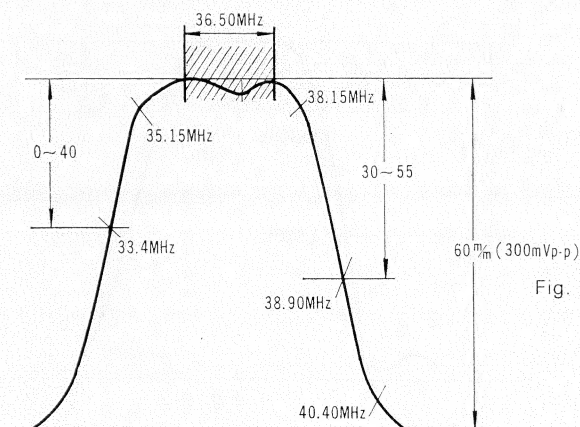

Fig. 4-4
- (1) Set AGC bias to 1.2Volts.
- (2) Set the center frequency of the sweep generator to 700 MHz.
- (3) Adjust the channel selector to obtain the response curve.
- (4) Adjust the sweep output level to obtain about 300mV p-p on the response.
- (5) Adjust both L31 (VHF tuner IF coil) and L32 (UHF tuner converter coil) to obtain the correct response curve as shown in Fig. 4-4.